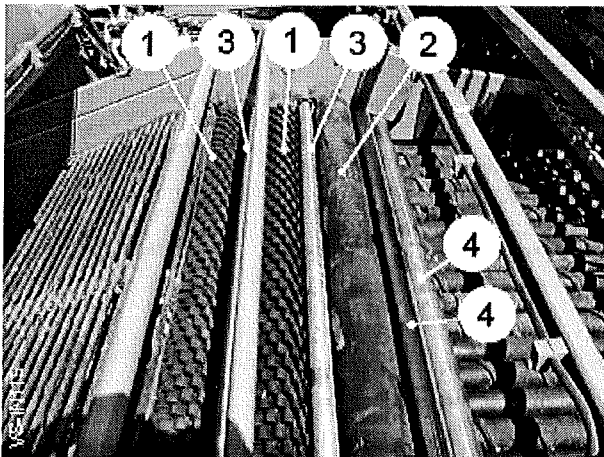
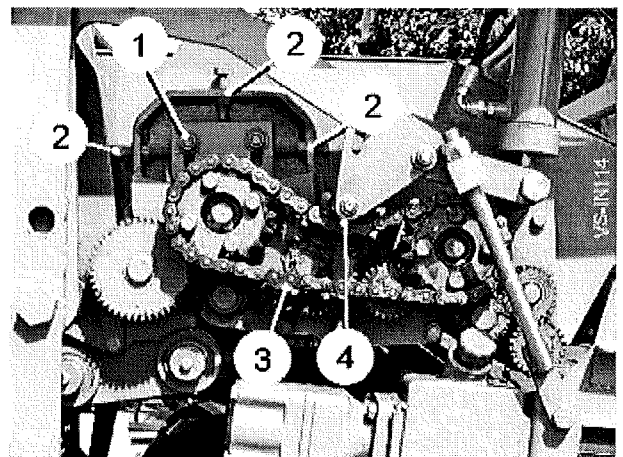

Fig 18
Fig 19
The 2nd star separator is fitted with 2 rows of stars (item 1, fig 18), and a rubberised roller (item 2, fig 18), with 2 stainless steel rollers (item 3, fig 18) between them, feeding onto the roller cleaner unit over a pair of stainless steel rollers (item 4, fig 18).
The stainless rollers (item 3, fig 18) between the stars are available in 2 sizes to allow for differing crop conditions. Fitting a smaller roller creates a larger separation gap.
The gap between the roller and the stars is adjustable by lifting the roller carrier, and also by moving it fore and aft relative to the stars. This is achieved by releasing the clamp bolts (item 1, fig 19) and then adjusting the positioning bolts (item 2, fig 19).
The rollers (item 3, fig 18) are driven in the direction of crop flow by the drive chain (item 3, fig 19). The chain is tensioned by adjusting the tensioner (item 4, fig 19).